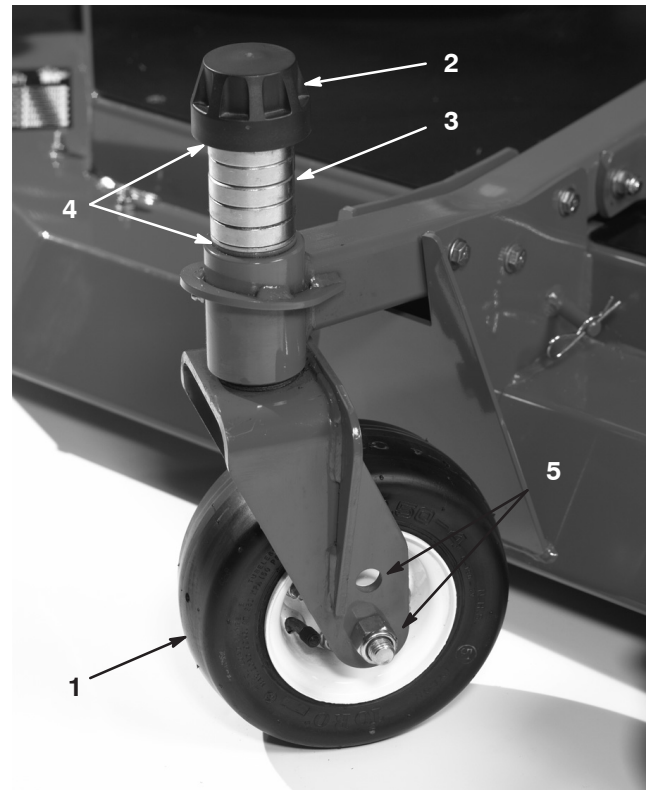

Figure 10
3. Remove the tensioning cap from the spindle shaft (Fig. 10) and slide the spindle out of the castor arm. Put the 2 shims (1/8 inch) onto the spindle shaft as they were originally installed. These shims are required to achieve a level across the entire width of the cutting units. Slide the appropriate number of 1/2 inch spacers onto the spindle shaft to get the desired height-of-cut; then slide the washer onto the shaft.